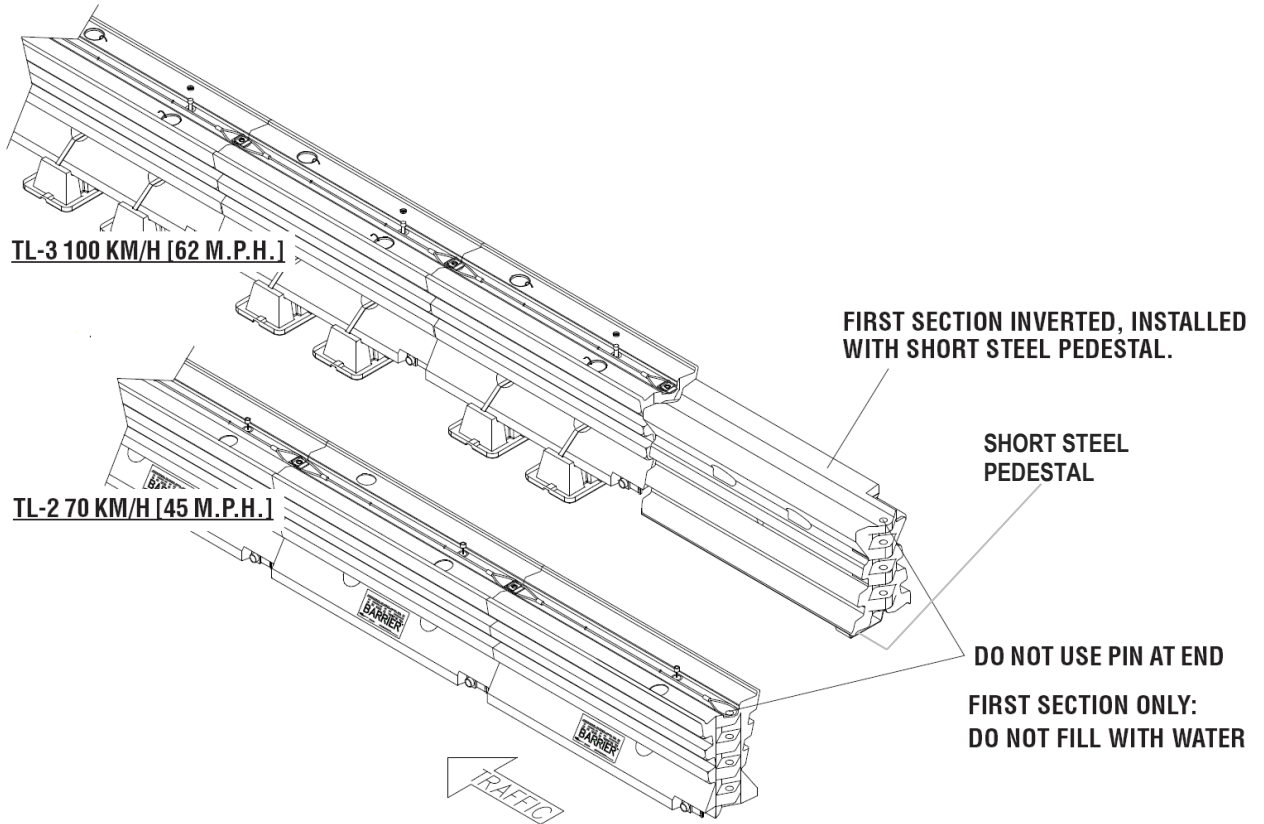

Figure 4
- Bring the first Barrier segment into place. For TL-3, be sure it is empty, turned upside down, and has a short pedestal attached (See Figure 4). For TL-2, the first Triton Barrier segment is empty but oriented right-side-up (See Figure 4). Insert a connecting Pin through the second Triton segment Top Cable and into the overlapping end knuckles.